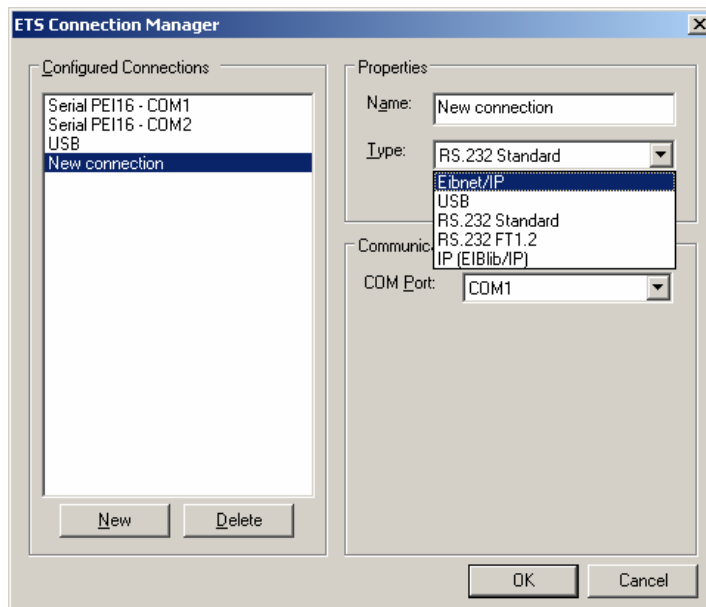

Fig. 6: Creating the new connection as EIBnet/IP connection
3. Create a new connection. To do so, press the "New" button. Select a unique name for the new connection. Under "Type" select "Eibnet/IP" (cf. Fig. 6). Thereafter, the ETS3 searches the IP data network automatically for available communication devices.